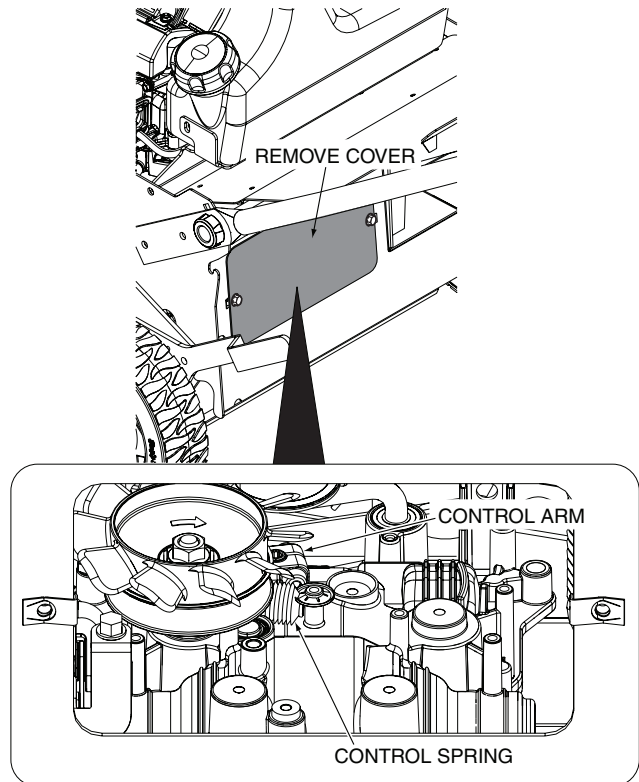

Figure 6-7.
6. Remove the transmission access cover and remove any debris that has collected on the transmission. See Figure 6-7.